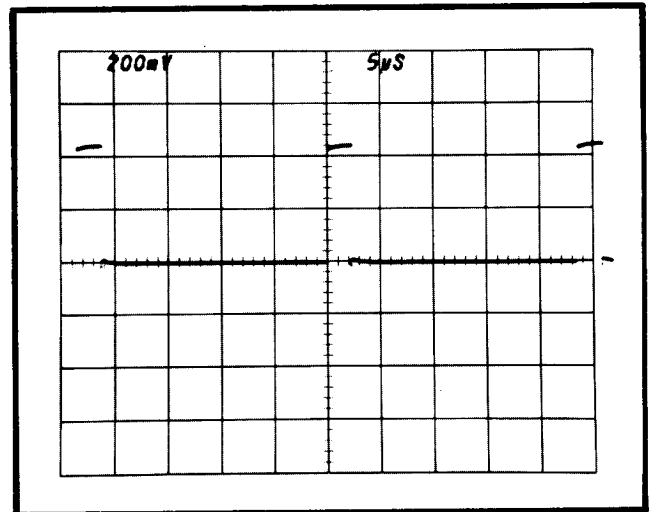

Fig. 5-13. CRT display when checking sweep holdoff time.
c. CHECK—The holdoff time is $3.5 \mu s$ or less (see Fig. 5-13).